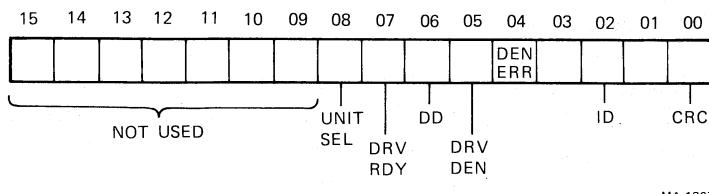

Figure 4-21 RXES Format (RX11, RXV11)
4.2.2.6 RXES - RX Error and Status (Figure 4-21) – This register contains the current error and status conditions of the drive selected by bit 4 (Unit Select) of the RXCS. This read-only register can be addressed only under the protocol of the function in progress (Paragraph 4.2.3). The RXES content is located in the RXDB upon completion of a function.